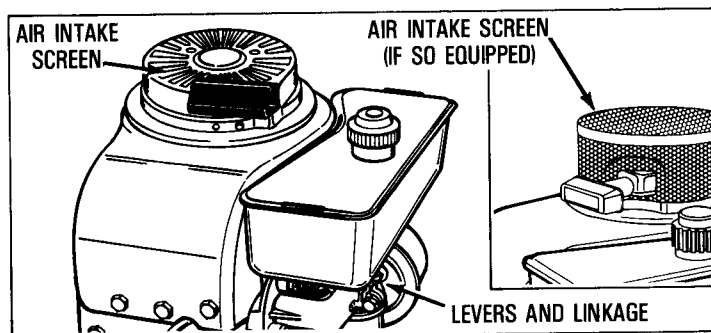

Figure 5
⑥ COOLING SYSTEM (see Figure 5):